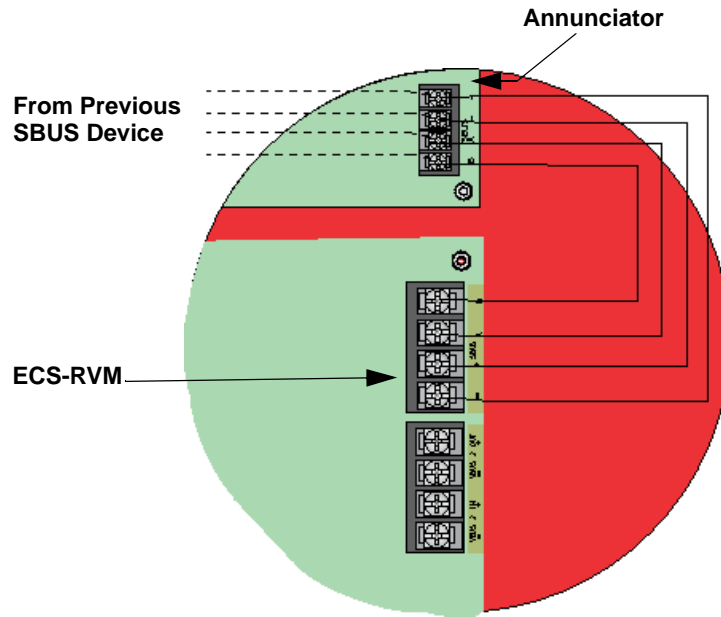

Figure 4.56 SBUS wiring for ECS-RVM
3. Connect the SBUS to the annunciator and ECS-RVM. See Figure 4.56.